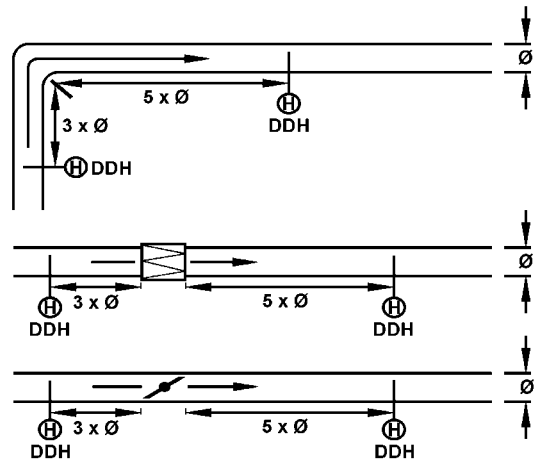

Fig.6
- Select a location for the sensor where the sensitive element is in a representative part of the air stream i.e. away from any obstructions or bends that may affect it - see Fig.6 for details. The sensor location should be relatively clean and free from damp and condensation.
- Connect the wires to the sensor terminals on the backplate. See the data sheet for the controller the sensor is to be connected to for the terminal designations. Fig.6 shows the basic wiring connections.